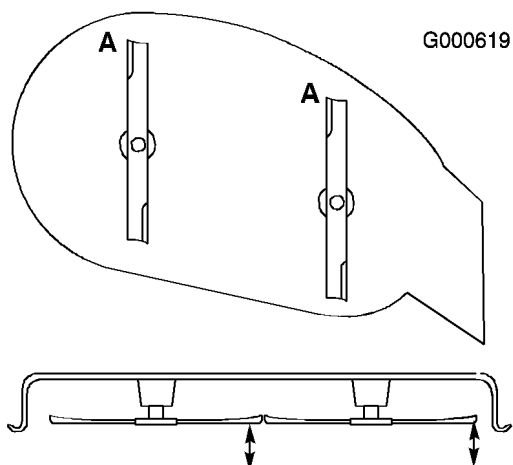

Figure 36
1. Rotate the blades until the ends face forward and backward (Figure 36). Measure from a level surface to the cutting edge, position A, of the blades (Figure 36). Note this dimension.